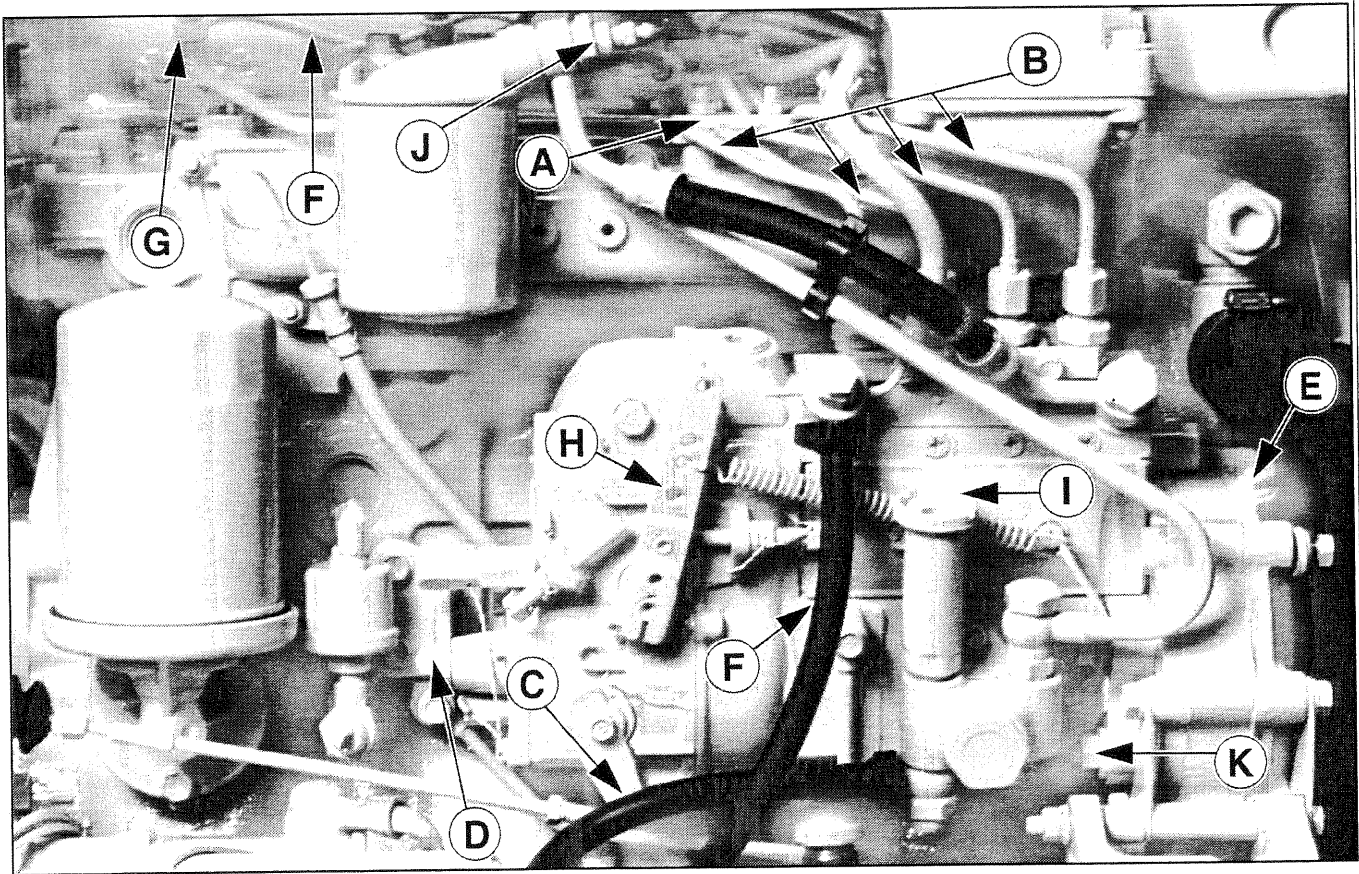

Figure 13: Fuel System
- c. Remove delivery lines (Figure 13-B) by disconnecting from injectors and injection pump. Remove all lines as an assembly; do not remove the spacers. Cover the ends of the lines, the injector inlets and injection pump outlets to keep dirt out.
- c. Reinstall injection lines (Figure 13-B). Tighten flare nuts at injection pump to 18.2 - 25.3 ft/lbs (2.5 - 3.5 k/gm). Leave the lines loose at injectors for bleeding.
- d. Bleed the injection lines (Figure 13-B). Crank the engine to fill the lines. Tighten flare nuts at injectors to 18.2 - 25.3 ft/lbs (2.5 - 3.5 k/gm).
- b. Remove the injection lines (Figure 13-B) from the pump and injectors. Remove all lines as an assembly. Do not remove the spacers. Cover the ends of the lines, the injector inlets, and the injection pump outlets to keep dirt out of the injectors, lines, and pump.
- c. Remove the pump support bracket (Figure 13-D) on rear of pump.
- d. Remove the plug (Figure 13-E) from the timing case cover. Use an indelible marker to put a mark on the injection pump gear through the plug hole. You will use this mark to align the pump during reassembly. Do not rotate the crankshaft after marking.
- e. Remove the 4 mounting nuts (Figure 13-K). Two (2) are found on the back side of the injection pump, and two (2) are found on the front side.
- c. Pressurize the system with the hand primer pump (Figure 13-l).